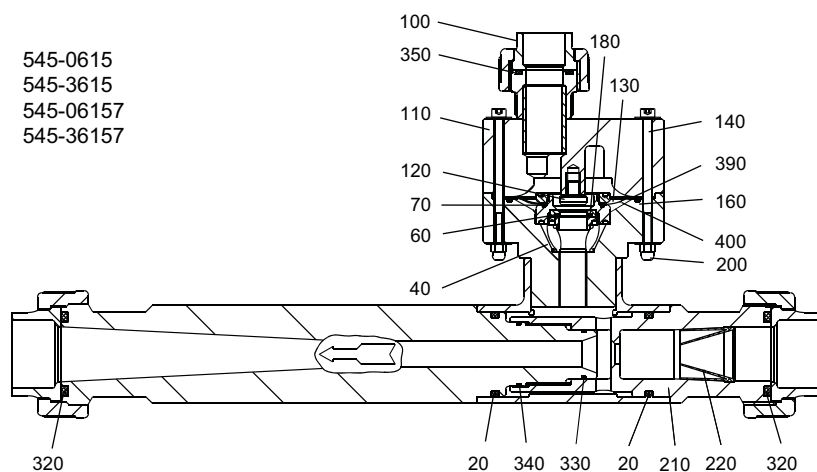

Fig. 5 Assembly drawing
1. Loosen the union nut (pos. 100, fig. 5, 6) on the gas connection.
3. Unscrew the nozzle (pos. 210, fig. 5, 6). Leave the swirl part (220) in the nozzle.
2. Loosen the union nut (pos. 100, fig. 5, 6).
5. Replace piston (120) and seat (60).
3. Loosen the cap nut (pos. 200, fig. 5, 6).
4. Remove the cylinder screws (140).
5. Remove the top part (90).
6. Unscrew the piston (120).
7. Screw in a new piston (by hand), replace O-ring (160) if necessary.
- Do not lose the spring (40).
5. Remove the top part (110).